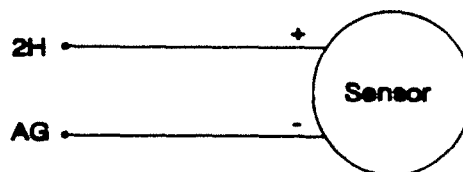

FIGURE TM1.1-4 Voltage Measured on Single-Ended Channel 3
CR10 analog ground (AG) (Figure TM1.1-4). The twelve single-ended channels are numbered sequentially starting with 1H; e.g., the H and L sides of differential channel 1 are single-ended channels 1 and 2; the H and L sides of differential channel 2 are single-ended channels 3 and 4, etc. (Table TM1.1-5). The single-ended channel numbers do NOT appear on the panel.